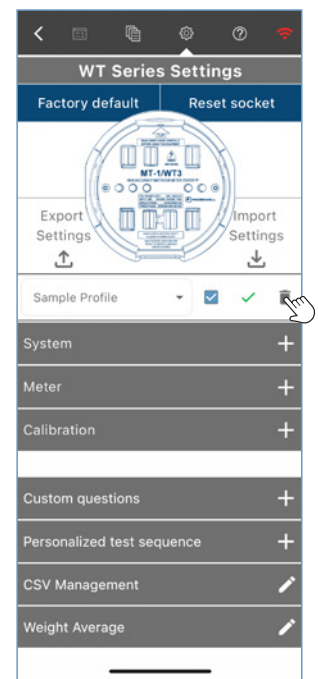

Figure 4
- Delete a profile:** To delete a profile, select the name of the profile from the drop-down menu and tap the garbage can icon to delete it (Figure 4).